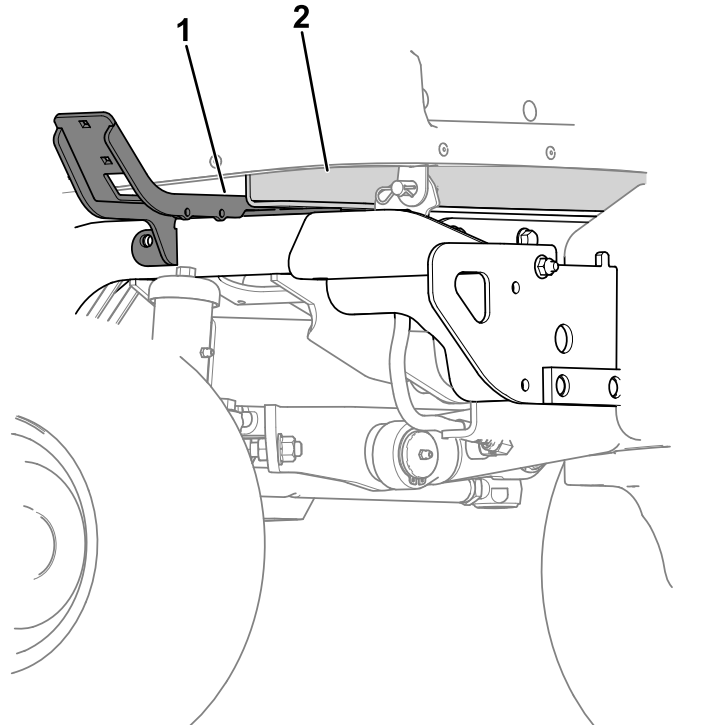

Figure 16
2. Slightly raise the battery tray and insert the left mount and right mount between the battery tray and the tube frame (Figure 16).